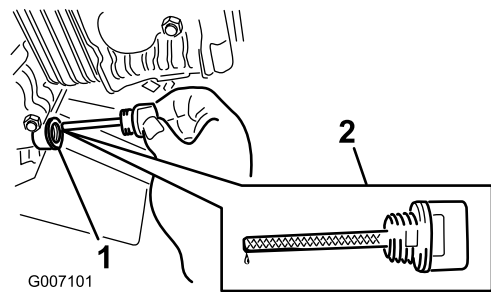

Figure 15
3. Clean around the oil dipstick (Figure 15).
4. Remove the dipstick and wipe the end clean (Figure 15).
5. Slide the dipstick fully into the dipstick tube without threading it into the filler neck (Figure 15).